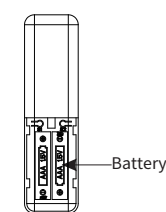

Figure 22
2. Insert the battery according to the indicated polarity (Figure 22).